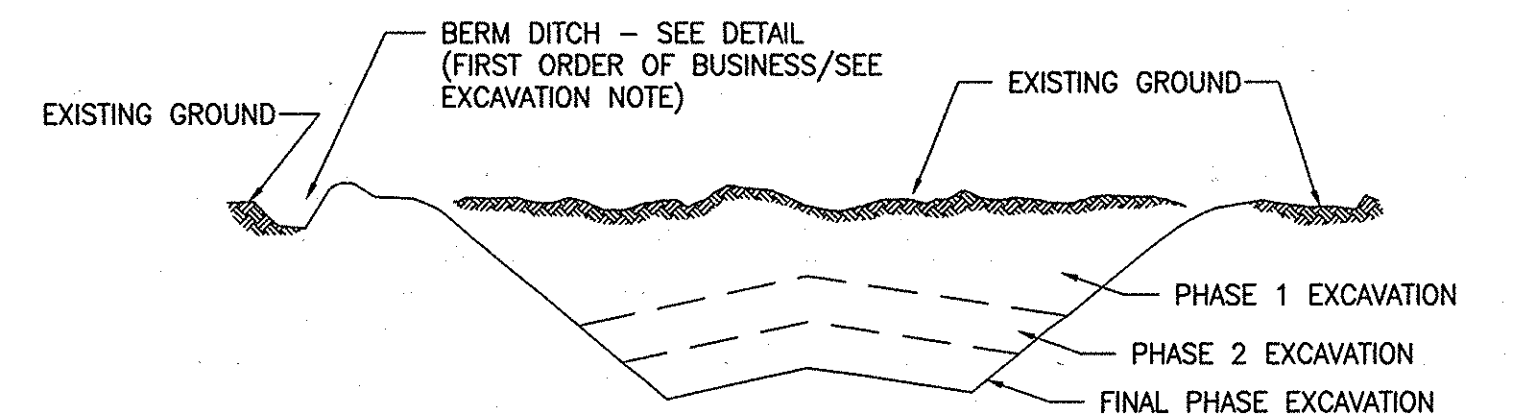

FIGURE 4: INCREMENTAL STABILIZATION - CUT
- A MULCH ANCHORING TOOL IS A TRACTOR-DRAWN IMPLEMENT DESIGNED TO PUNCH AND ANCHOR MULCH INTO THE SOIL SURFACE A MINIMUM OF TWO (2) INCHES. THIS PRACTICE IS MOST EFFECTIVE ON LARGE AREAS, BUT IS LIMITED TO FLATTER SLOPES WHERE EQUIPMENT CAN OPERATE SAFELY. IF USED ON SLOPING LAND, THIS PRACTICE SHOULD BE USED ON THE CONTOUR IF POSSIBLE.
- CONSTRUCTION SEQUENCE (REFER TO FIGURE 4 BELOW):